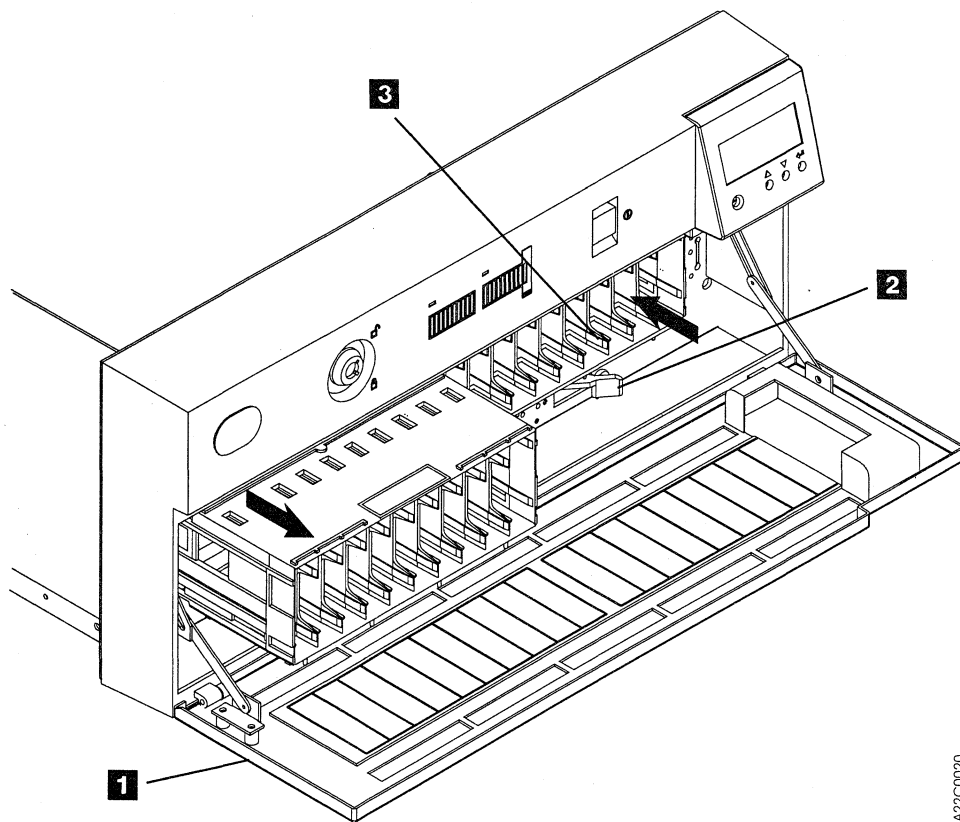

Figure 82. Loaded and Unloaded Magazine (with the Door in the Open Position)
To insert a magazine (see Figure 82):
To remove a magazine (see Figure 82):
4. Pull the magazine straight out as shown in Figure 82.